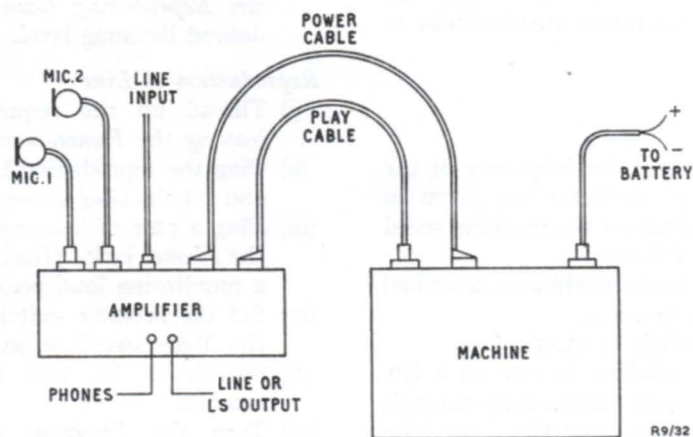

Fig. 4.1. Diagram of Connections
- (iii) Connect the *Power*, *Play* and *Battery* cables as indicated in Fig. 4.1, being careful to observe correct polarity for the battery. (Wiring details of the cables and connectors are given in Figs. 10, 11 and 12.)
- (iv) Connect the required input and output circuits, i.e. microphones, lines, headphones and loudspeaker. (Fig. 4.1.)